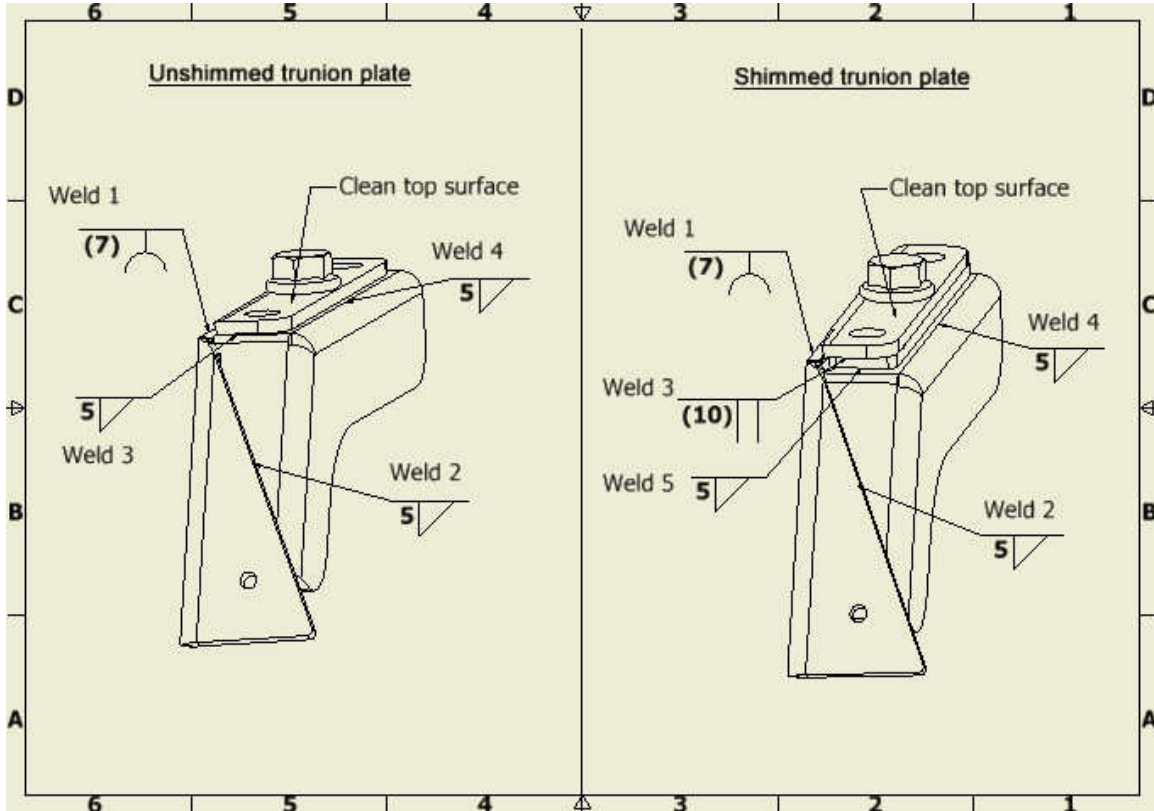

Figure 17. Welding instruction for both shimmed and unshimmed trunion plate.
7. Remove paint on weld 2, 3, 4 and 5. Finish weld as per Figure 17.